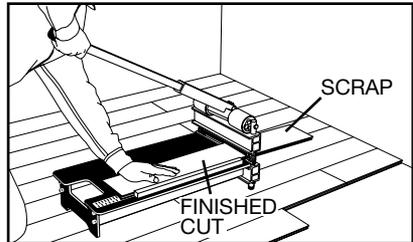
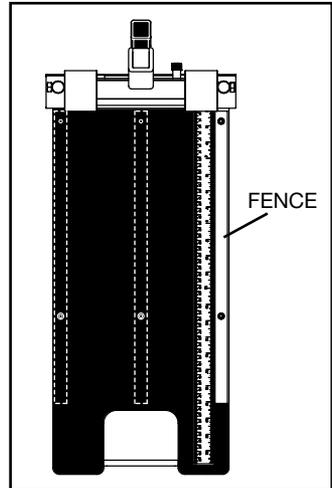

Figure 6
Figure 7
**MAKING CUTS:** Place the material to be cut on the bed of the cutter and slide it against the fence (see below and Figure 7) and beneath the blade. Keep hands away from the blade and out from under the blade carrier. Note that the blade produces the cleanest edge from its inner (bed facing) edge surface only. The cut piece remaining on the bed will be the finished cut, and the piece beyond the blade will be scrap (Figure 6).
Push down on the leverage handle with one hand, keeping the other hand on top of the material being cut. (See Figure 6.) HAND PRESSURE should be used to power the cutter, not foot pressure, body weight, other weight, or impact on the leverage handle. Keeping a hand on the material prevents it from moving and ensures an accurate cut. Keep hands away from the blade, blade carrier, and pressure rollers at all times, and keep hands out from under the material being cut. Stay alert and watch the cutting process at all times.
The fence of the cutter is movable to any one of three straight positions (Figure 7). Moving the fence helps position the material being cut under different areas of the blade, so that as areas of the blade become dull, other areas that are still sharp can be more easily used. Cutting under different areas of the blade also wears the sides of the cutter mechanism more evenly over time, extending the life of the tool. Cutting mostly under one side can wear out the cutter sooner.
To move the fence, remove the two wing nuts from beneath the bed, and remove the fence. Insert the fence into any pair of holes as shown in Figure 7, then reattach and tighten the wing nuts.